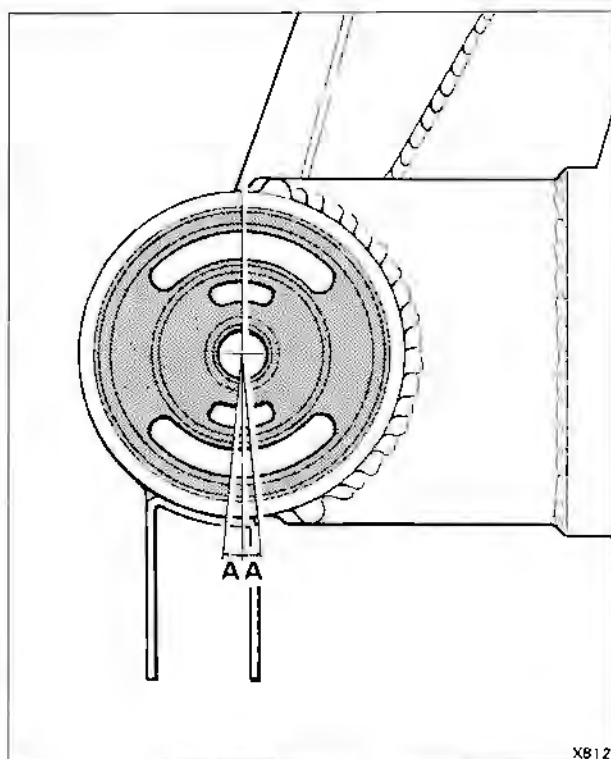

Fig. H9-1 Rear crossmember mount alignment
13. Locate a new mount in position on the crossmember. Fit tool RH9291 using the insertion components. Ensure that the slots in the rubber of the mount are positioned as shown in figure H9-1. Tighten the tool draw bar to draw the new mount into the sleeve